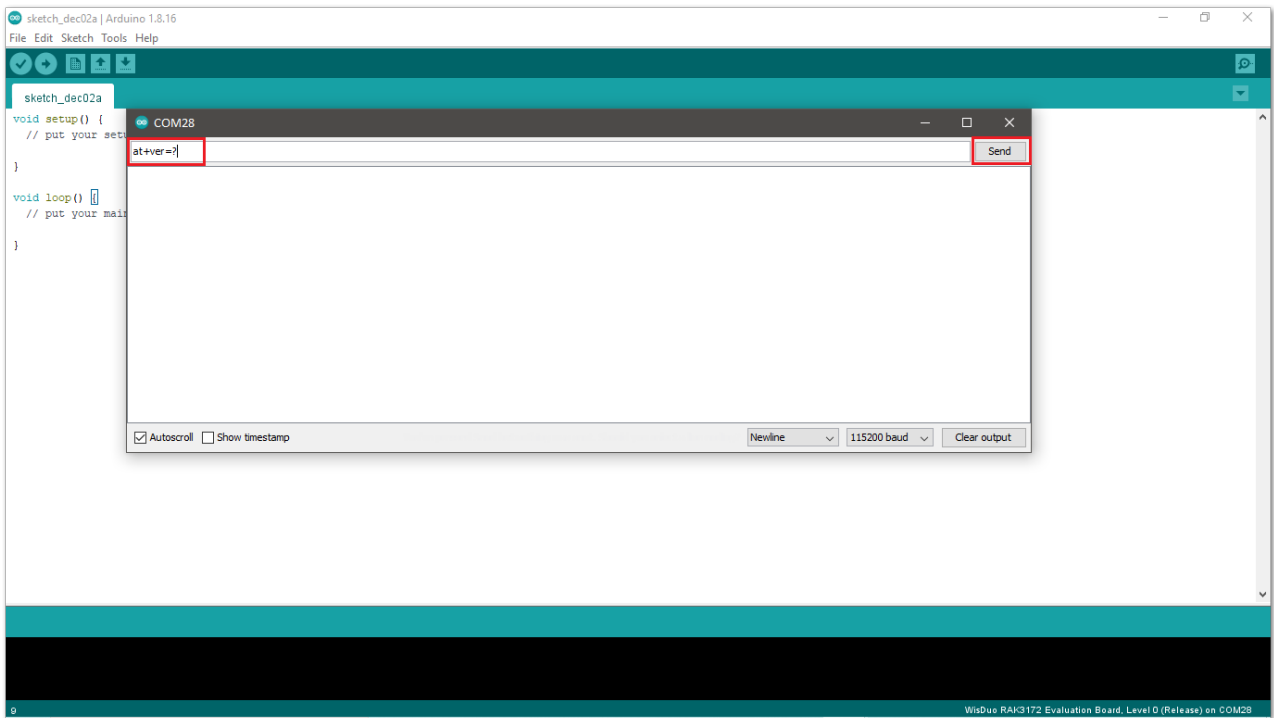

Figure 15: Send AT command
6. If the connection is successful, you can send AT Commands to RAK3172. For example: To check the RUI version, type `AT+VER=?` on the text area, then click on the **Send** button, as shown in **Figure 15**.